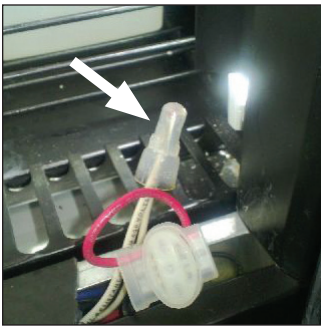

Fig 4.14 Disconnect the anti-condensate wiring from case wiring inside front sill extension (medium-temp case shown).
6. Using flat-head screwdriver, carefully pry loose vertical striker plates (Fig. 4.14) that are covering the mullions.